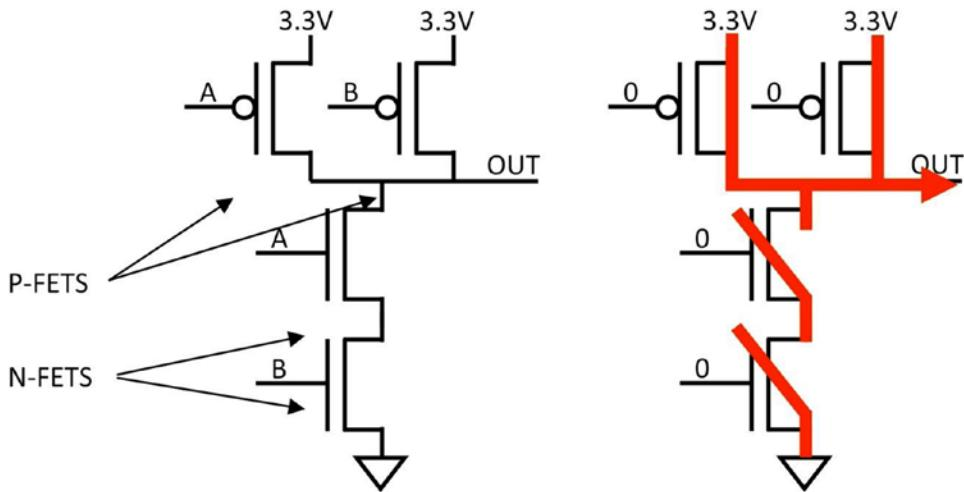

Figure 5-2. NAND Gate circuit
When you download the bit file to the FPGA chip, the bit file tells the FPGA how to set up all these MOSFETs in the FPGA so they deliver the required output. One example of how they work is in a NAND gate. A NAND gate performs the not-AND operation. Figure 5-2 is the circuit diagram for a NAND gate using two P-FETs and two N-FETs.
Sometimes, N-FETs and P-FETs are shown without the arrows but with a circle on the gate to represent a P-FET. In Figure 5-2, you can see that if A and B are low (0), the two P-FETs on the top will be ON and the two N-FETs on the bottom will be OFF, such that 3.3V will be connected to output which is logical high (1). Since the P-FETs are in parallel, if A or B are low (0), 3.3V will be connected and ground will be disconnected. So this acts as a NAND gate logic element: low (Ground) is connected to output if and only if both A and B are high, another combination of AB input will connect high (3.3V) to output